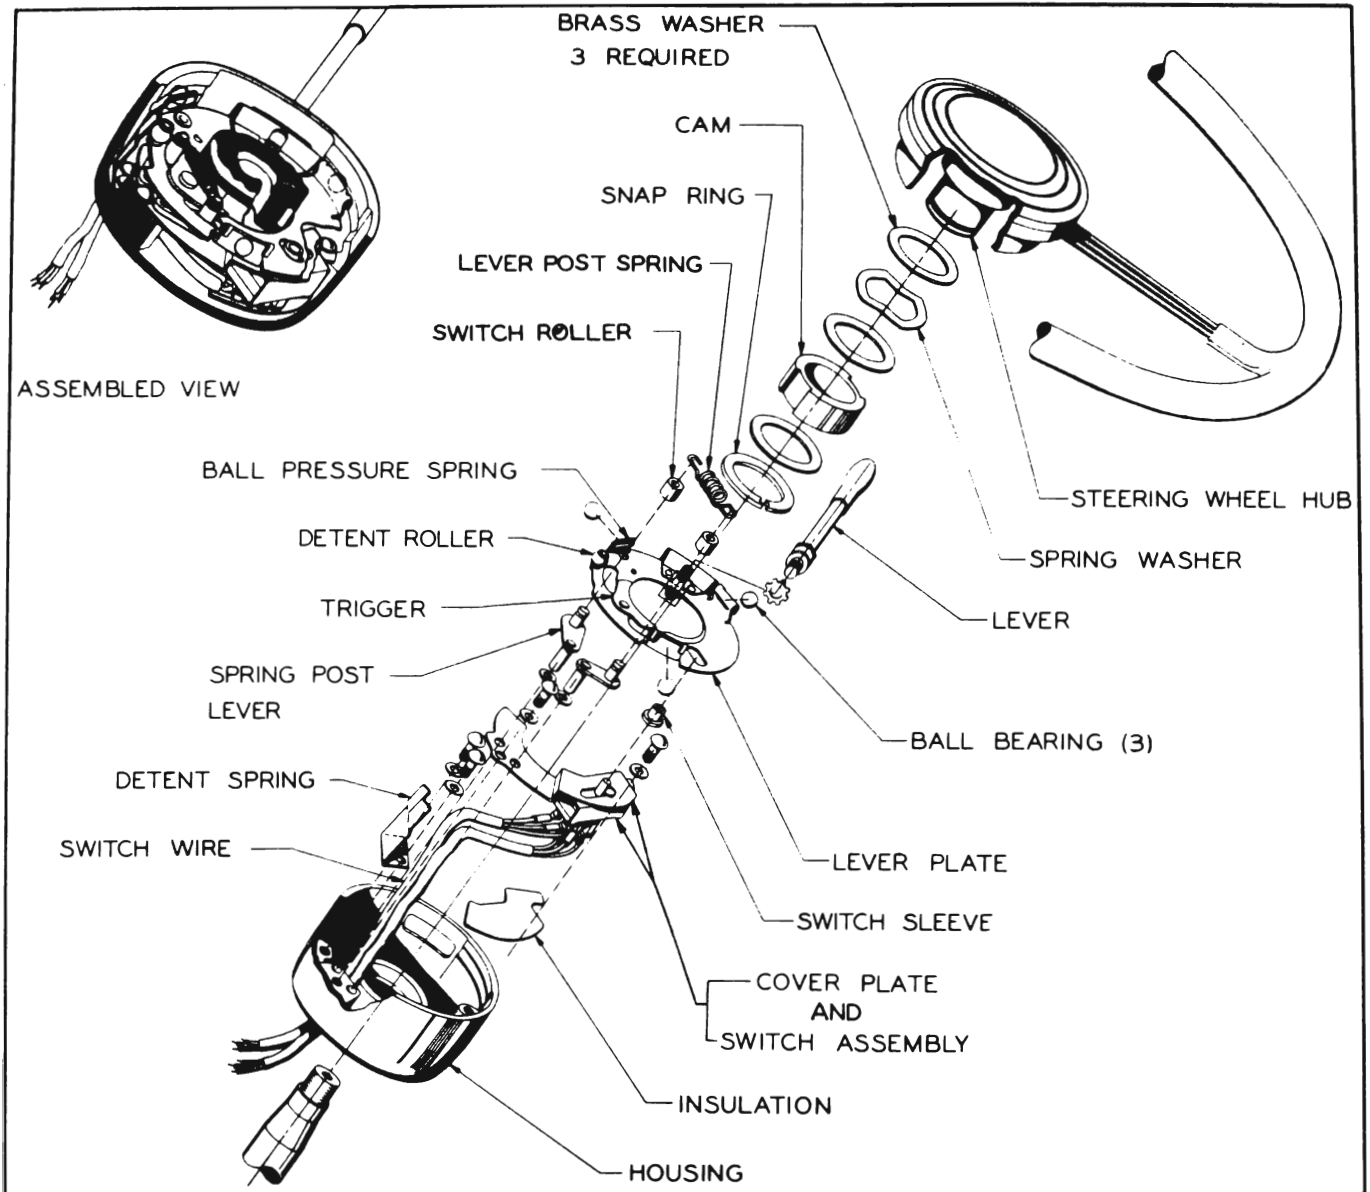

Figure 10-103—Direction Signal Switch—Disassembled
The switch is attached to a cover plate mounted in the switch housing. The switch handle, protected by a hardened steel sleeve, extends upward to engage a slotted hole in the lever plate which is mounted in housing on three ball bearings so that it can be rotated by the attached control lever. Rotation of the lever plate moves the switch handle to obtain the "left", "off", or "right" position of switch contacts. The lever plate is held in the selected position by a detent roller on the plate which engages a detent spring mounted in switch housing. See figure 10-103.
corresponding end of a trigger on lever plate is pressed against a cam on the steering wheel hub by the action of a spring loaded post lever. When the steering wheel is turned approximately one-third revolution for a right (or left) turn, the end of the trigger drops into a notch in the cam so that the trigger, lever plate, and switch handle are pushed back to the "off" position as the wheel is turned in the opposite direction after the turn is completed. As the switch reaches the "off" position, the trigger is withdrawn from engagement with the cam by the action of another spring loaded post lever. See figure 10-103. The switch remains in the "off" position until it is again set for a turn.
spring washer. See figure 10-103. If trouble is experienced in maintaining proper timing and adjustment of the cam, the spring washer is probably flattened and too weak, permitting the cam to turn on hub. To check the clutch friction, note the pressure required to hold the control lever while slipping the cam in step 3 above. Compare with another car on which no trouble is experienced. See paragraph 10-64 for replacement of cam or clutch friction parts.
4. Install cam and washers on steering wheel hub in the following order: brass washer, spring washer, brass washer, cam, brass washer, and snap ring. See figure 10-103. **CAUTION:** Use care when installing parts to avoid distorting and weakening the spring washer.
10. Make sure that the switch housing insulation is in place below the switch (fig. 10-103) then work the switch and wire down into place in switch housing.